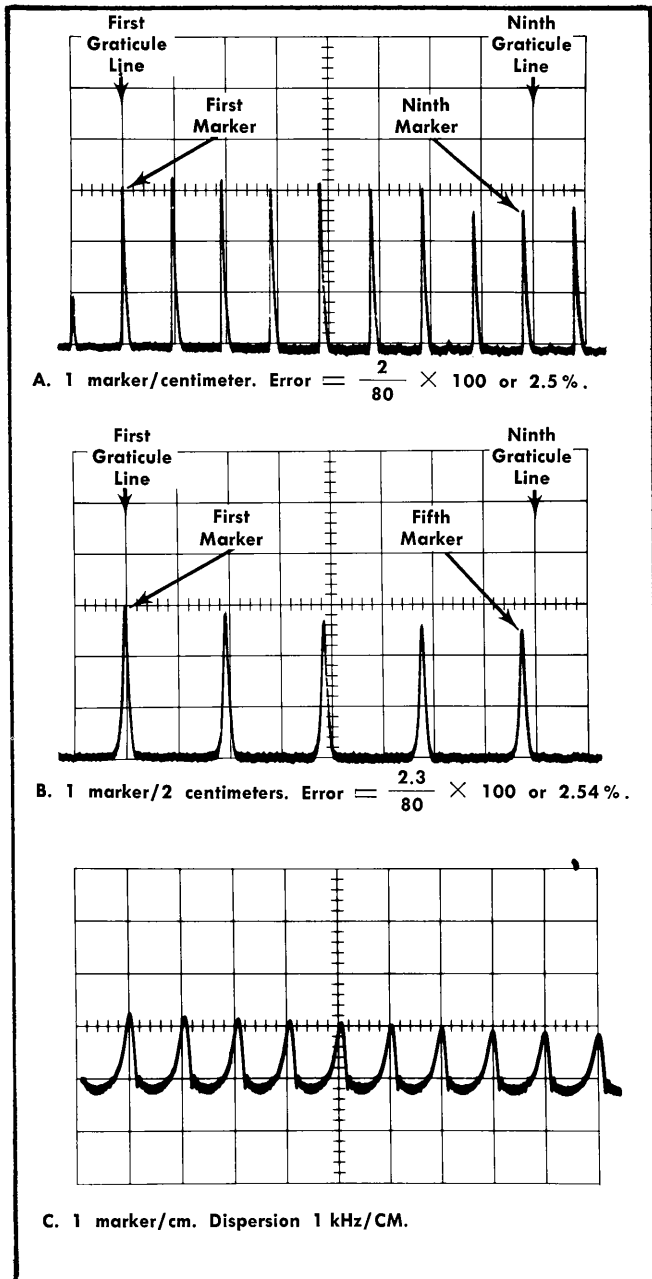

Fig. 5-3. Typical spectrum displays when checking dispersion accuracies.
c. Align the 1st marker to the 1st graticule line, using the Horizontal Position control or the VARIABLE CENTER FREQUENCY control. Check dispersion accuracy for the 10 kHz to 990 kHz center frequency range as per Table 5-3. See Fig. 5-3. Increase the resolution by adjusting the RESOLUTION and decreasing the sweep rate as the dispersion is decreased.